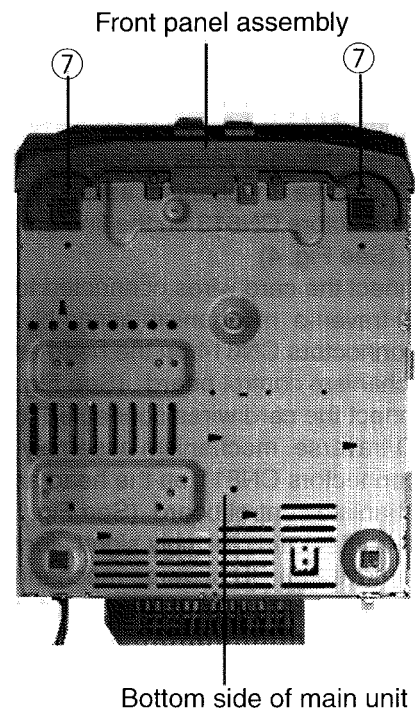

Fig. 6
■ Removal of the Front Panel Assembly (See Figs 6~8)
3. Remove the two screws ⑦ fastening the front panel assembly to the bottom of the main unit. (See Fig. 6)